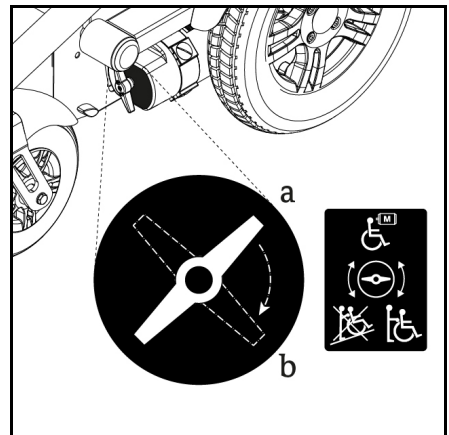

Figure 6.5
- 'Drive' mode. In this position, the chair can not be pushed (a in figure 6.5).
- 'Push' mode. In this position, the chair can not be driven using the controller (b in figure 6.5).
- Make sure that the freewheel levers are set to 'drive' (fig. 6.5).